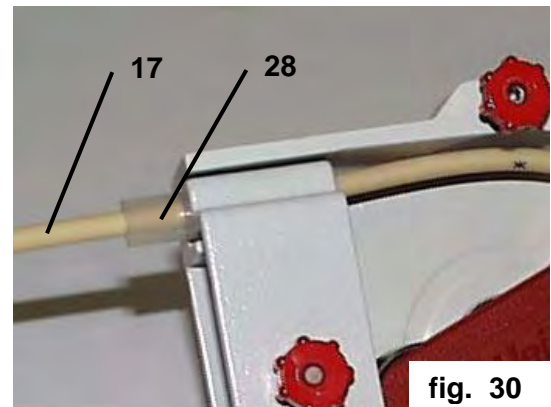

fig. 30
3.7. Use of small ID hoses (size 0.8 and 1.7 mm) (fig. 30).
- To this end slip these short hoses (28) over your pump hose (17) and install hose (17) with short hoses (28) in pump head so that these short hoses are located under the clamp. To go ahead from this point, refer to "install hose" Chapter.